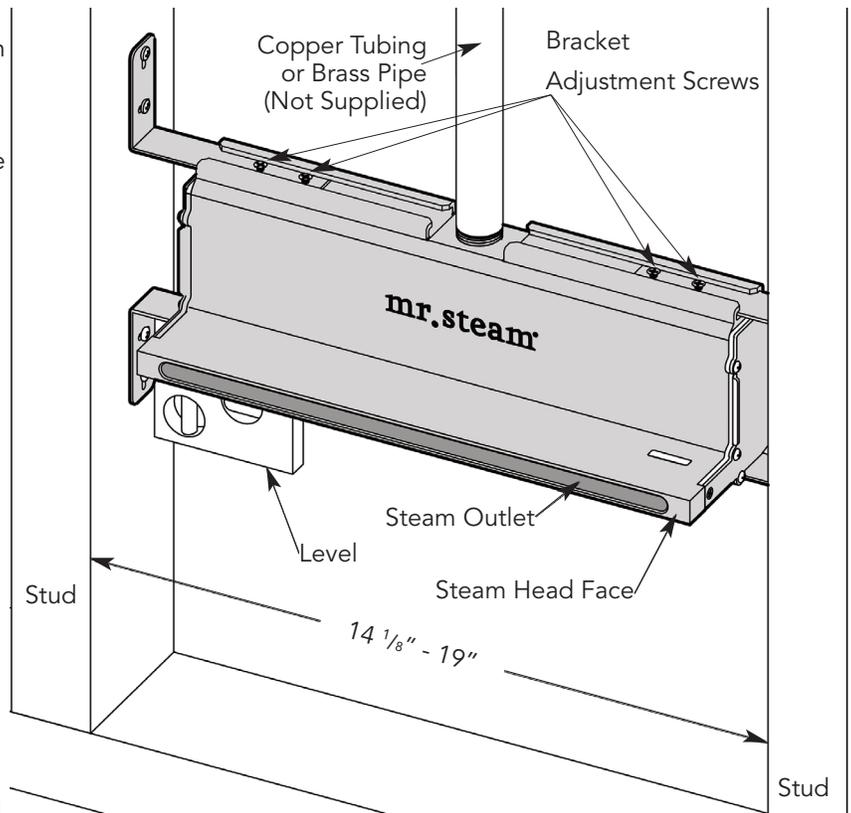

Figure 3
STEP 3. Position the steam head between 2 properly spaced studs. Extend the adjustable brackets as required so the steam head fits snugly between two studs. Use a level to ensure the steam head is level (see Fig. 3). Tighten the eight bracket adjustment screws (supplied).